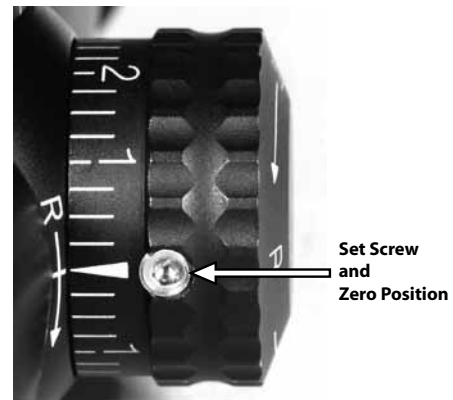

Figure 3
because the stop position is ½ turn away from the zero position. See Figure 3.
4. If you need additional windage travel than the **Windage Limiter™** stop will allow, loosen the set screw on the windage turret 1¼ turns and rotate the knob in the opposite direction from which the stop was engaged, and then retighten the setscrew to 5 inch pounds. You should not feel any clicks when making this adjustment. If you do, the set screw is too tight. See Figure 3.
7. Loosen the set screw on the windage turret 1¼ turns. Visually align the "0" on the turret number scale with the index mark on the scope body for the windage turret. With the number scale in the "0" position, apply downward pressure to the turret and tighten the set screw to 5 inch pounds. See Figure 3.